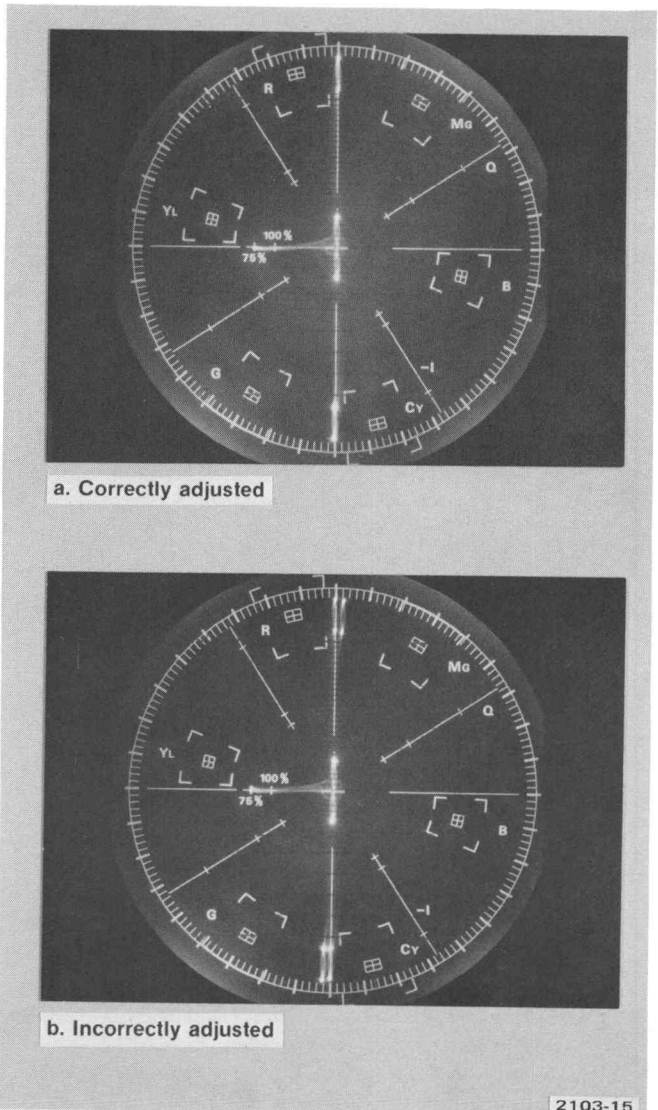

Fig. 4-5. 0° — 180° Switch Phase vectorscope display.
b. Check—Phase error between color bar vectors on the vectorscope display should be 0.5° or less (see Fig. 4-5). Use the vectorscope Calibrated Phase dial to measure any error.